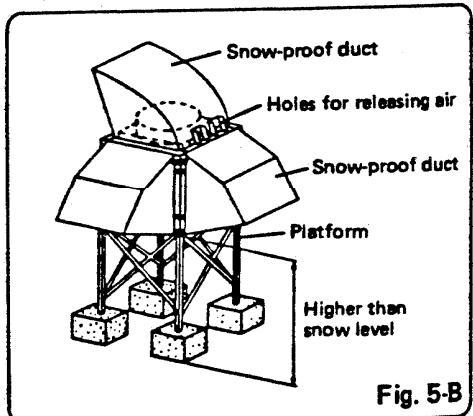

Fig. 5-B
- Set the intake opening of the snow-proof duct facing downwards, and make the opening area large. Fig. 5-B